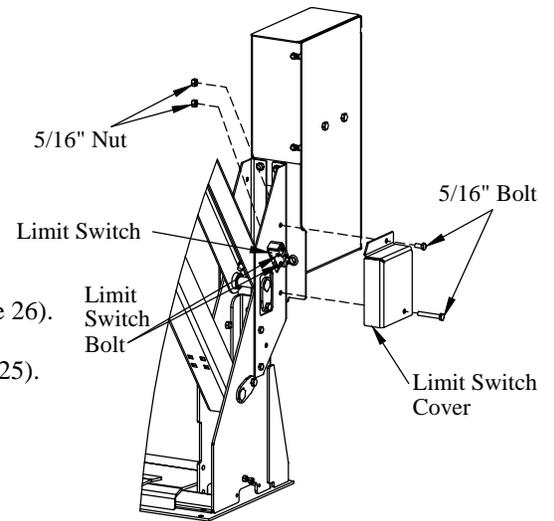

Figure 25: Limit Switch.
9. **Install** the limit switch cover with 5/16" bolts and nuts. Be careful not to over tighten the 5/16" bolts (Figure 25).